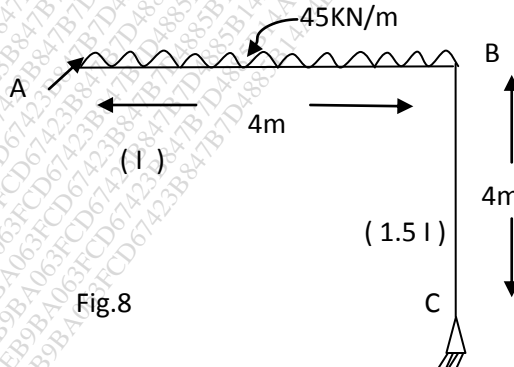

Fig.8
Q.10 a) Analyze the frame shown in fig 8 by moment Distribution method and plot BMD